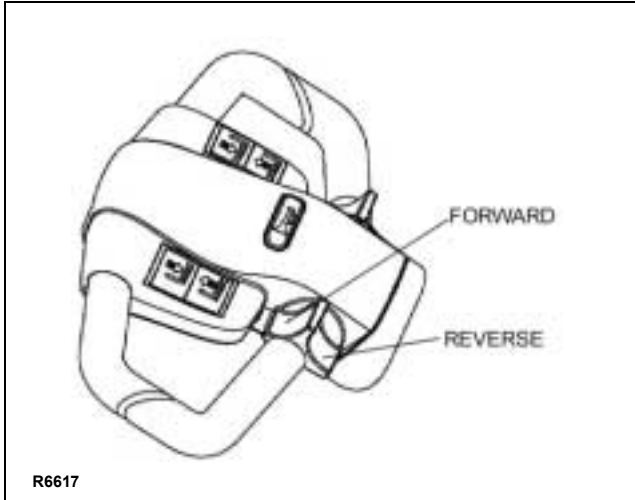

Figure 2-3. Forward/Reverse Control
The speed control (See Figure 2-3) located on each side of the control head provides fingertip control for driving the truck. Rotate the control in the direction you want to travel. The farther you rotate the control from the neutral position, the faster the truck will travel.
3. To move forward (with load in front), slowly press the speed control forward. See Figure 2-3. Press the forward speed control farther to increase speed.
5. Procedures for movement in reverse are the same as in the forward direction except slowly press the speed control backward. See Figure 2-3.